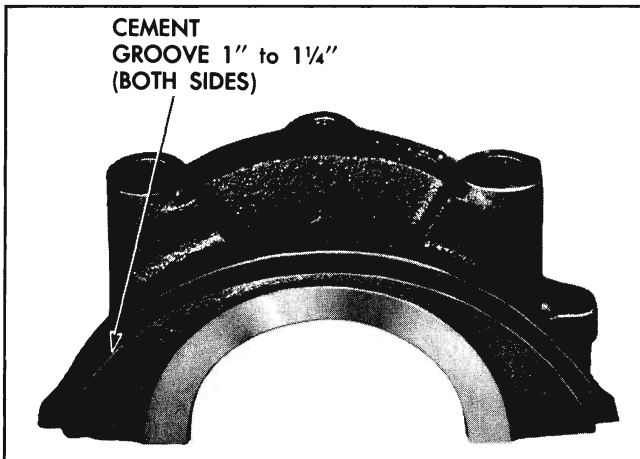

Fig. 6-45 Oil Pan Gasket Positioned in Bearing Cap
8. Apply gasket cement to gasket groove from joint face down 1" to 1 1/4" (Fig. 6-45) and install new gasket.